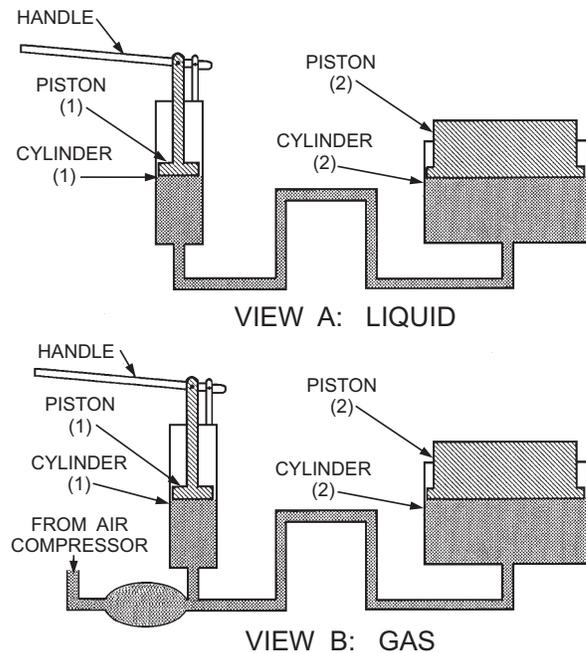

Figure 9-1.—Transmission of force by liquids and gases.
Unlike liquids, however, gases are highly compressible. This characteristic is the major difference between the two, and is the reason that gases provide a much less rigid force than liquids. For example, compare the hydraulic system shown in figure 9-1, view A, to an almost identical pneumatic system shown in view B. It would require the same amount of force on piston (1) of either system to overcome equal resistant forces acting against piston (2). However, because of its compressibility, a gas decreases in volume as it increases in pressure. Therefore, in the gaseous system, a large portion of the travel of piston (1) is used to compress the gas. For this reason, gases for pneumatic systems, such as shown in figure 9-1, view B, are compressed in advance and stored in attached containers. Gas is then released from the container in sufficient volume and at the correct pressure to accomplish the required work.